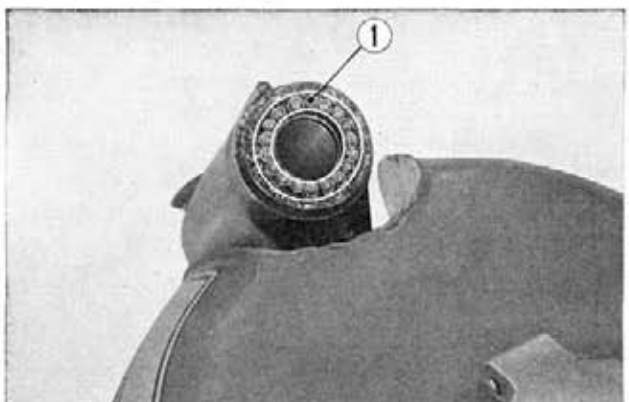

Fig. 11-6 ① Steel balls
1. Apply a liberal amount of grease on the steering ball races and assemble the steel balls 18 on the upper side and 19 on the lower side. (Fig. 11-6)